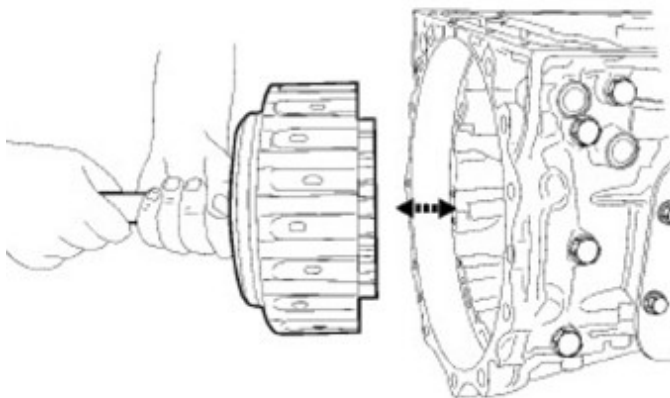

Fig. 6
9. Remove the input shaft assembly with the K1 and K2 clutch assemblies attached Fig. 6.
20. Install the K2 clutch assembly and the K1 clutch/input shaft assembly into the transmission case Fig. 6.